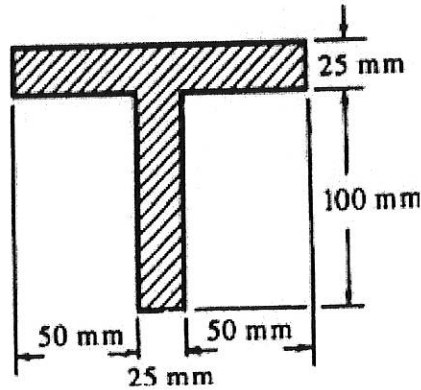

Figure 3 (a) / Rajah 3 (a)
- (a) Determine the position of the neutral axis and the value of the second moment area of the beam with a cross-section as shown in **Figure 3 (a)**.